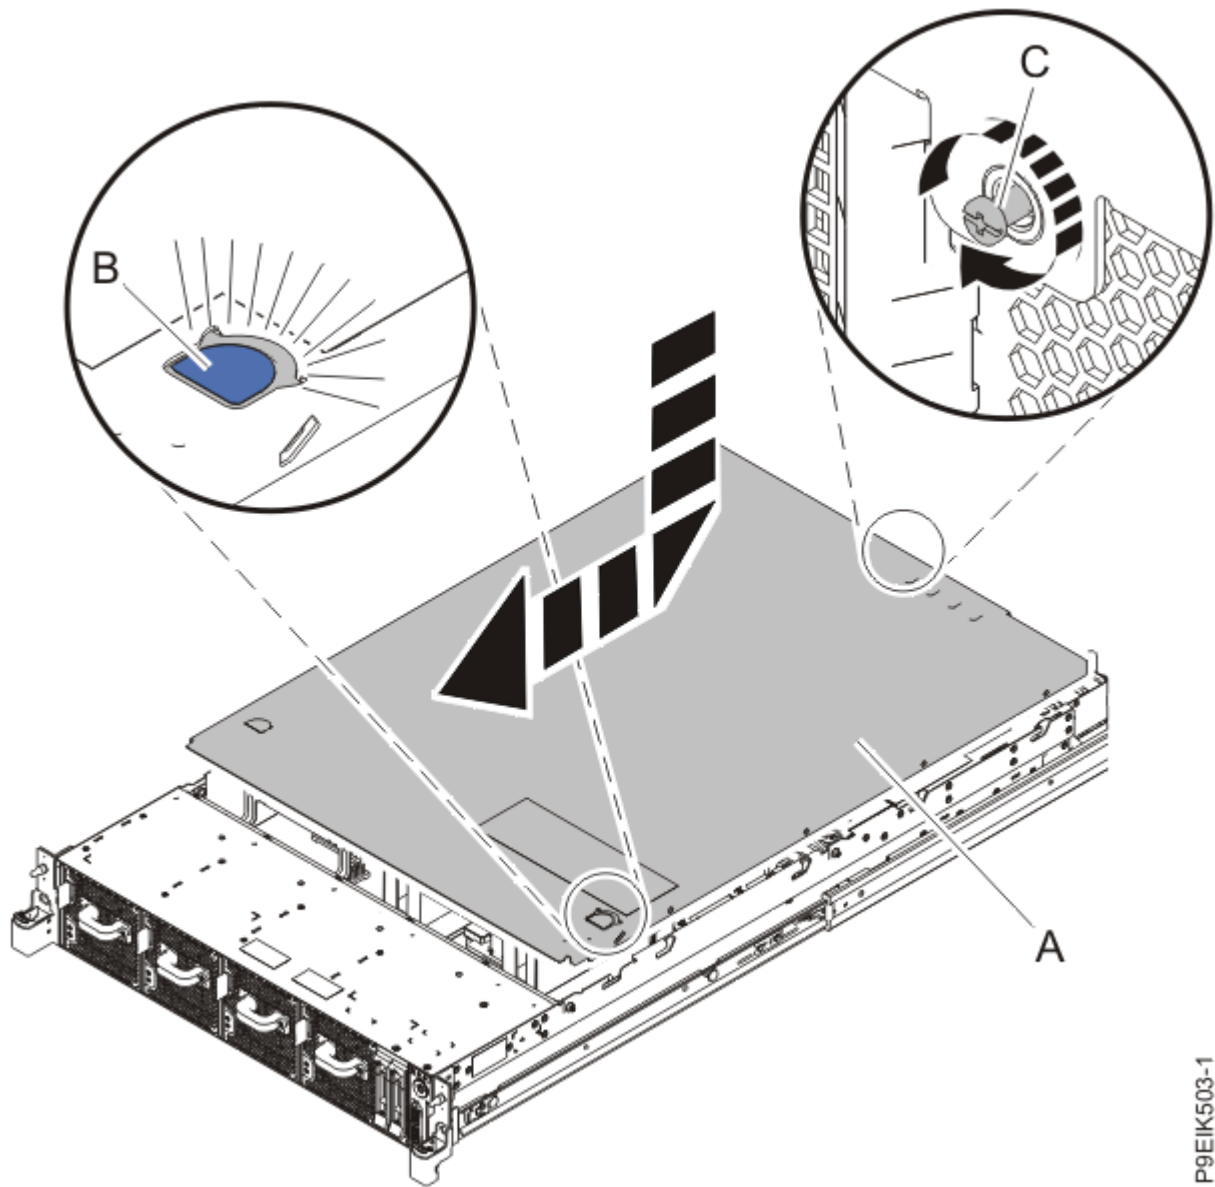

Figure 30. Installing the cover
1. Place the cover **(A)** on the system unit such that the alignment pins on the cover are aligned to the slots on the chassis. Slide the cover to the front of the system until the blue release latch **(B)** locks in to place as shown in Figure 30 on page 42.
2. Fasten the cover screw (C) at the rear of the cover.